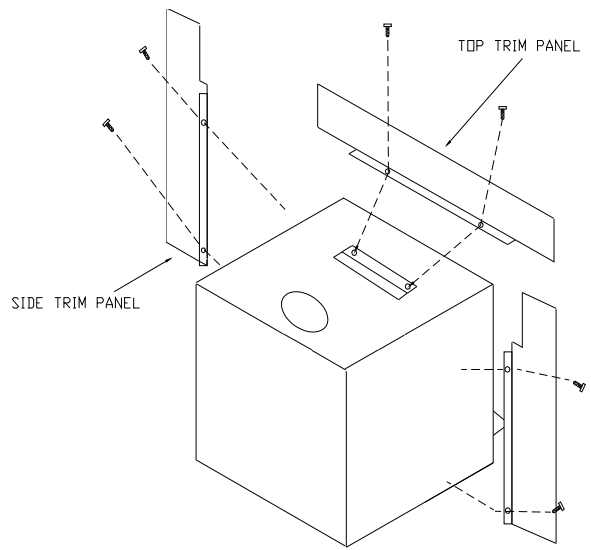

FIGURE 3 MOUNTING TRIM PANELS
4. Mount the side trim panels. (See Figure 3)